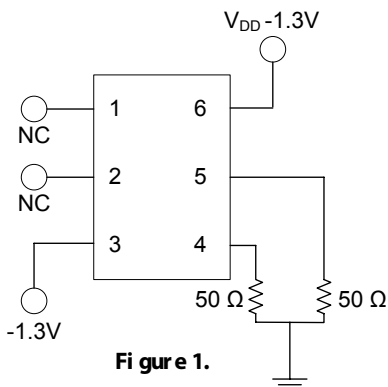
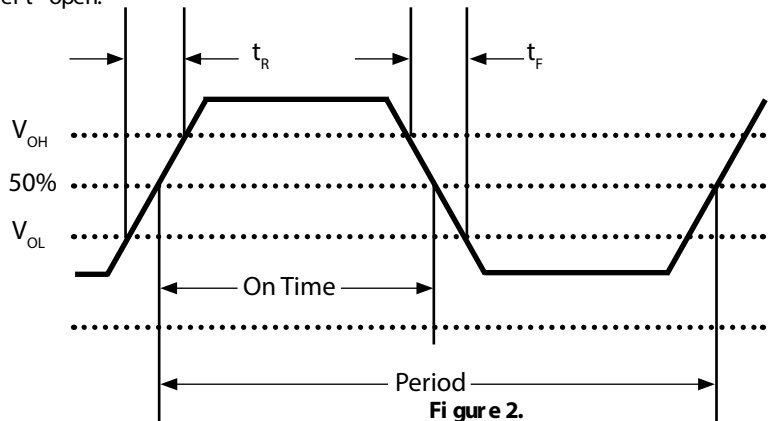
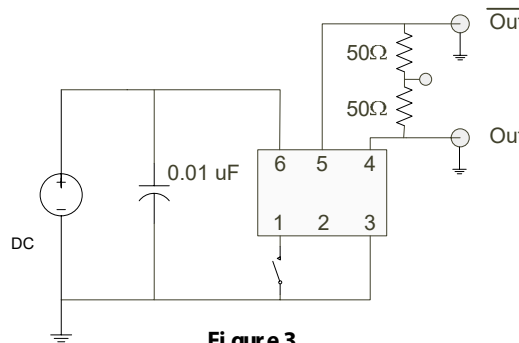

Figure 1.
Figure 2.
Figure 3.
- Figure 1 defines the test circuit and Figure 2 defines these parameters.
4. Figure 2 defines these parameters and Figure 3 defines the test circuit.